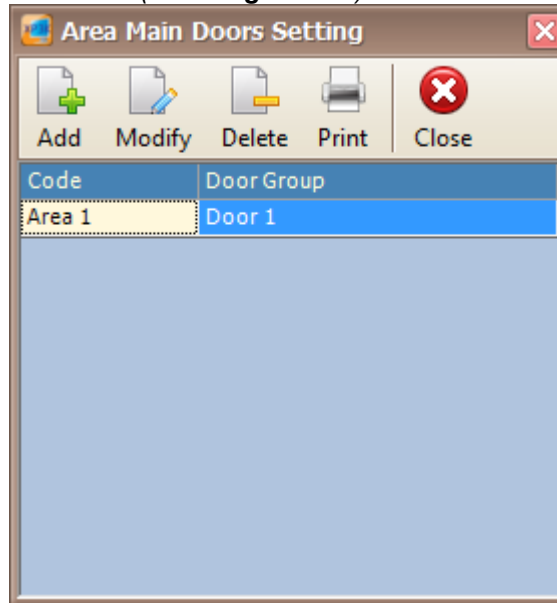

Figure 153 - Area Main Doors Setting
2. The following window will be shown (Refer **Figure 153**).